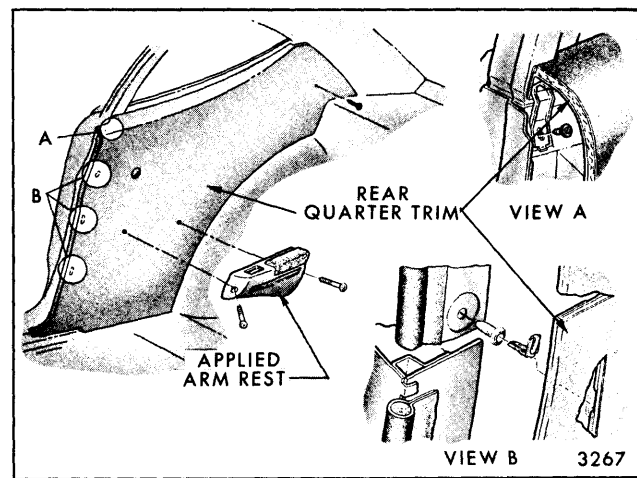
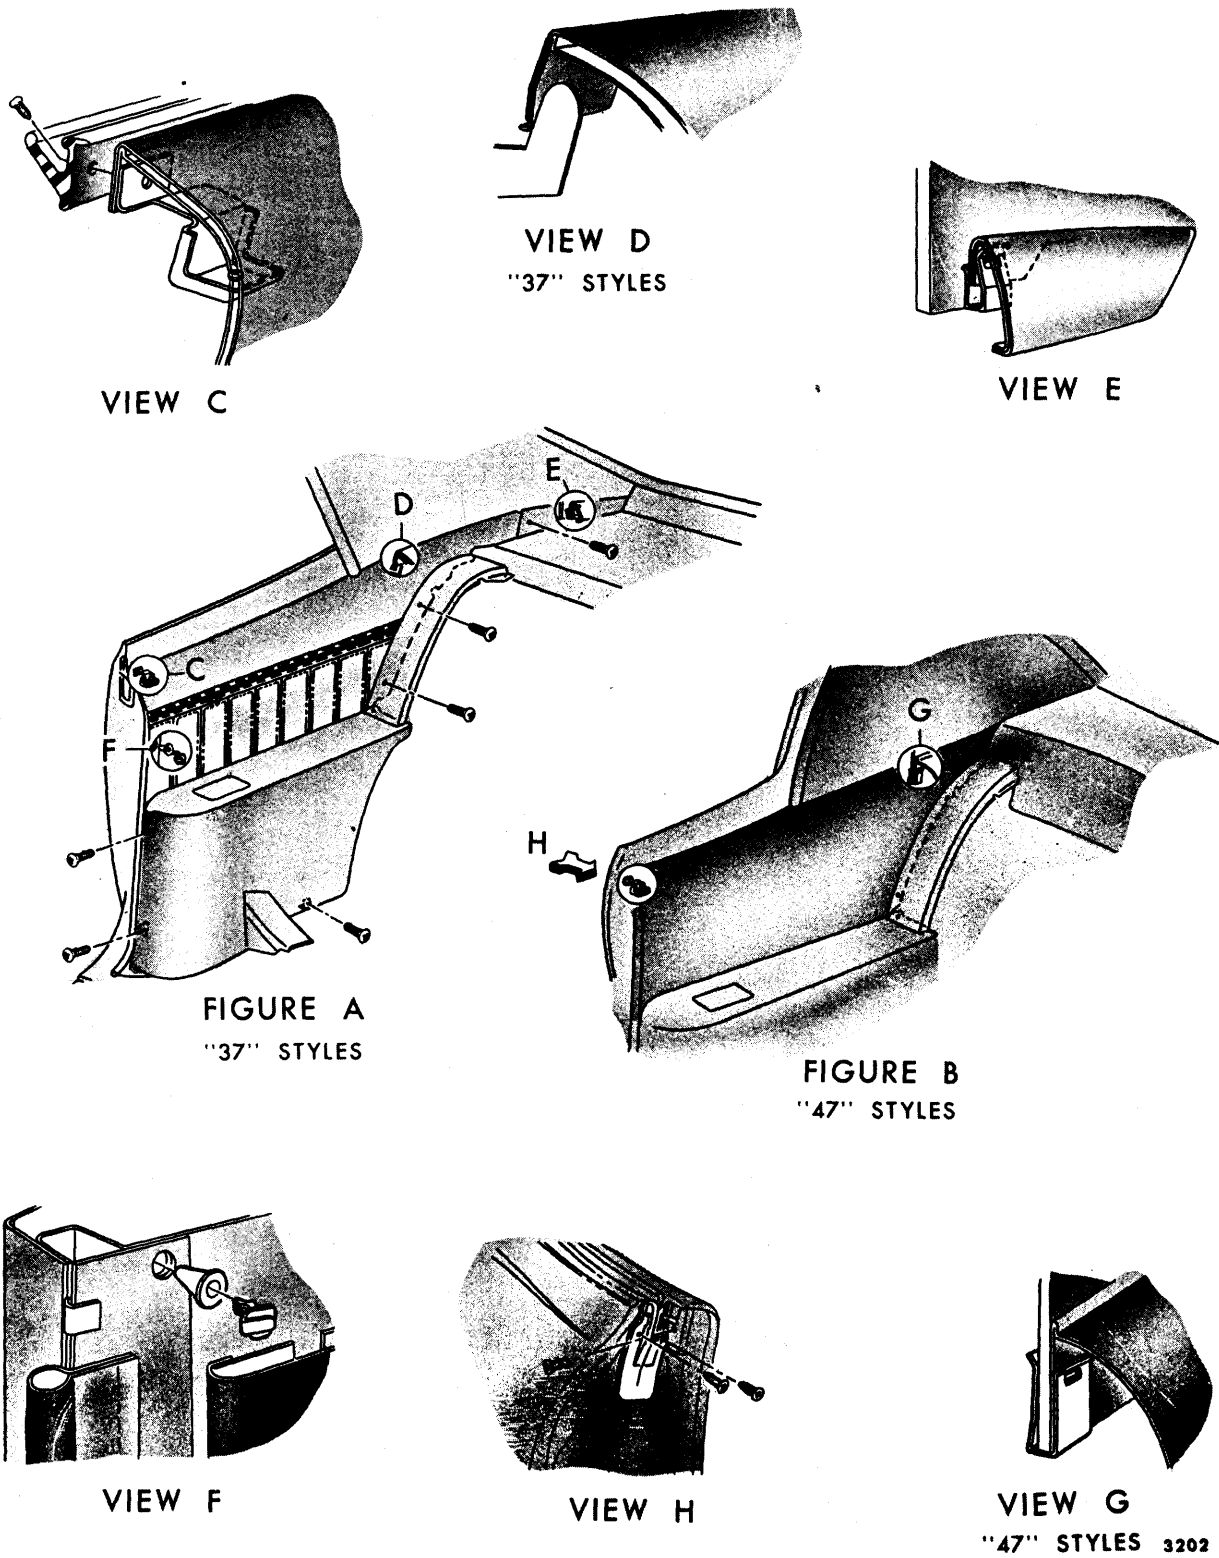
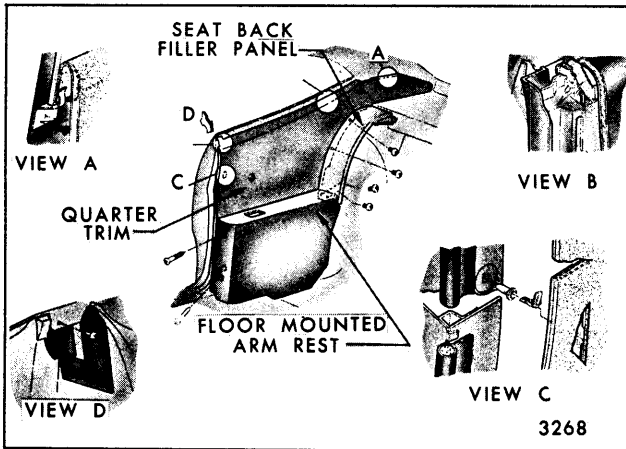
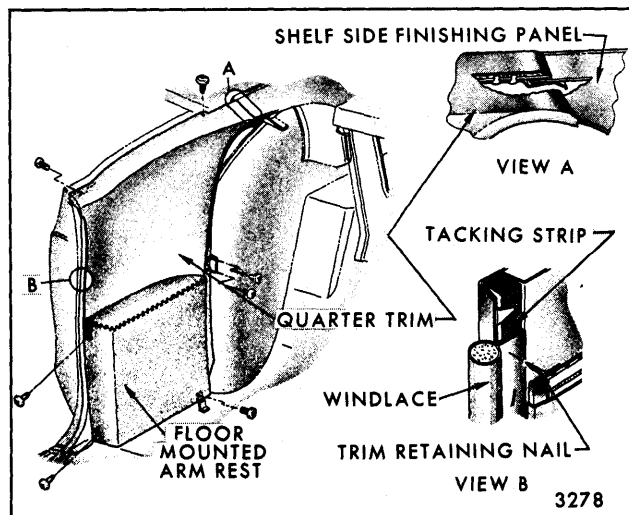

Fig. 14-18—Applied-Type Quarter Arm Rest and Trim Assembly
Fig. 14-19—Quarter Arm Rest and Trim Assembly - "B-37, 47" Styles
Fig. 14-20—Rear Quarter Arm Rest and Trim Assembly - "A" Two-Door Styles
Fig. 14-28—Rear Quarter Arm Rest and Trim Assembly - "49487" Style
- A. Applied arm rests, which are retained by two screws inserted through the arm rest base into the quarter inner panel (Fig. 14-18).
- B. Floor mounted arm rests which are retained by screws inserted through the arm rest assembly into brackets on the inner panel (Figs. 14-19, 14-20).
7. Use trim panel removing tool J-6335 or J-9886 or equivalent to disengage body lock pillar windlace retaining nails from tacking strip on "E" body styles (Fig. 14-28), and retaining clips from plastic retaining plugs (View "B", Fig. 14-18, View C, Fig. 14-20 and View F, Fig. 14-19).